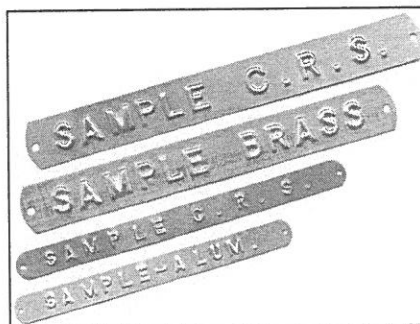

Figure Q2
- (a) Figure Q2 shows the product of one of the cold working process in metal forming. Describe the process with the aid of a neat sketch.